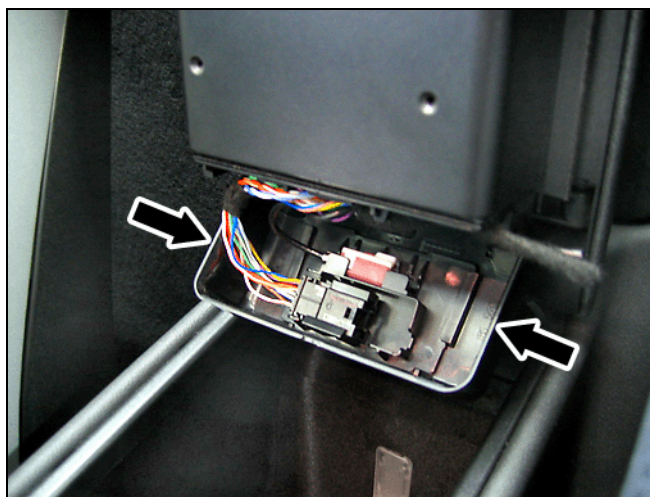

Figure 22
2. At the bottom of the upper compartment of the center console, open the compartment cover (Figure 22) for the contact plate female FAKRA and power supply connectors.